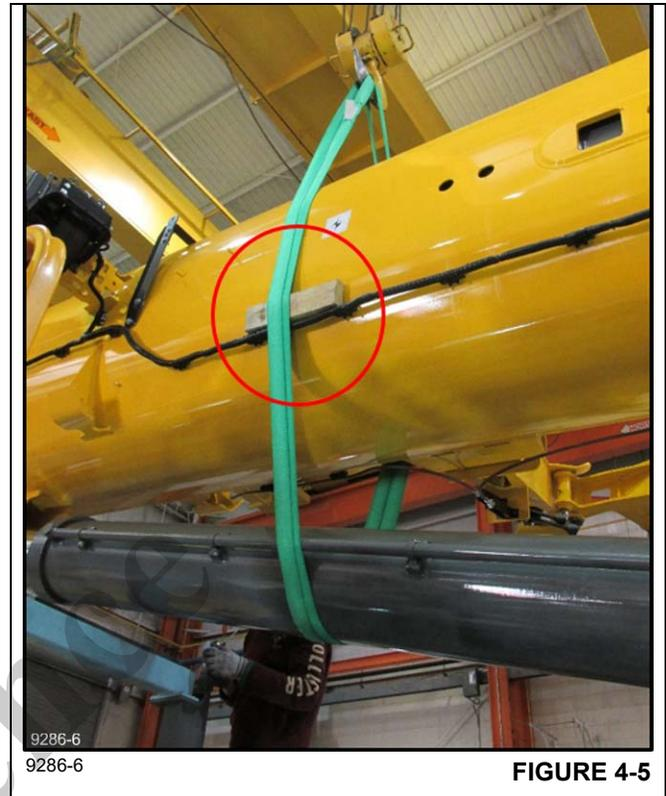

FIGURE 4-5
10. Move a crane hook to the front above the lift cylinder. Attach a strap under the lift cylinder and lift it (Figure 4-5).
NOTE: Install a piece of wood to prevent damaging the electrical harness as shown in the red circle (Figure 4-5).
9. Move the rear crane hook to the front above the lift cylinder. Attach a strap under the lift cylinder and lift it (Figure 4-5).